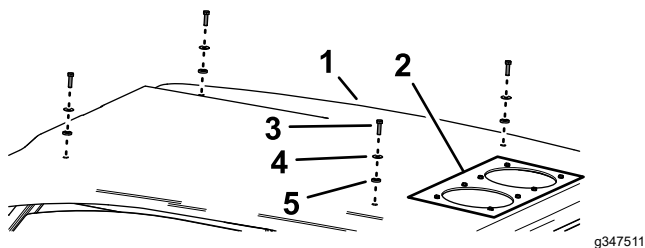

Figure 31
1. Remove the 4 bolts, 4 washers, and 4 seals that secure the roof to the cab (Figure 31).
4. Assemble the roof to the cab with the 4 bolts, 4 washers, and 4 seals (Figure 31) that you removed in step 1.